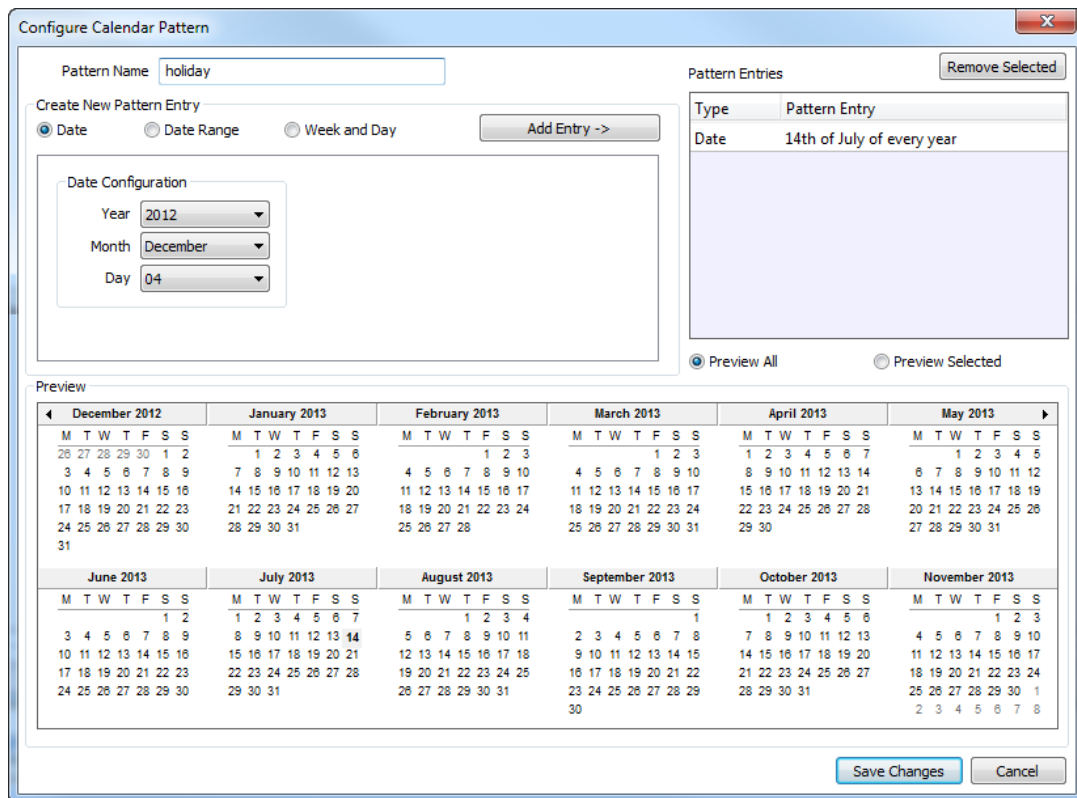

Figure 132: Configure Calendar Pattern Dialog
4. The **Configure Pattern** dialog appears as shown in Figure 132. Add dates to the calendar pattern by entering a Date Configuration. Then click **Add Entry**. The date appears in the Pattern Entries list on the right-hand side.